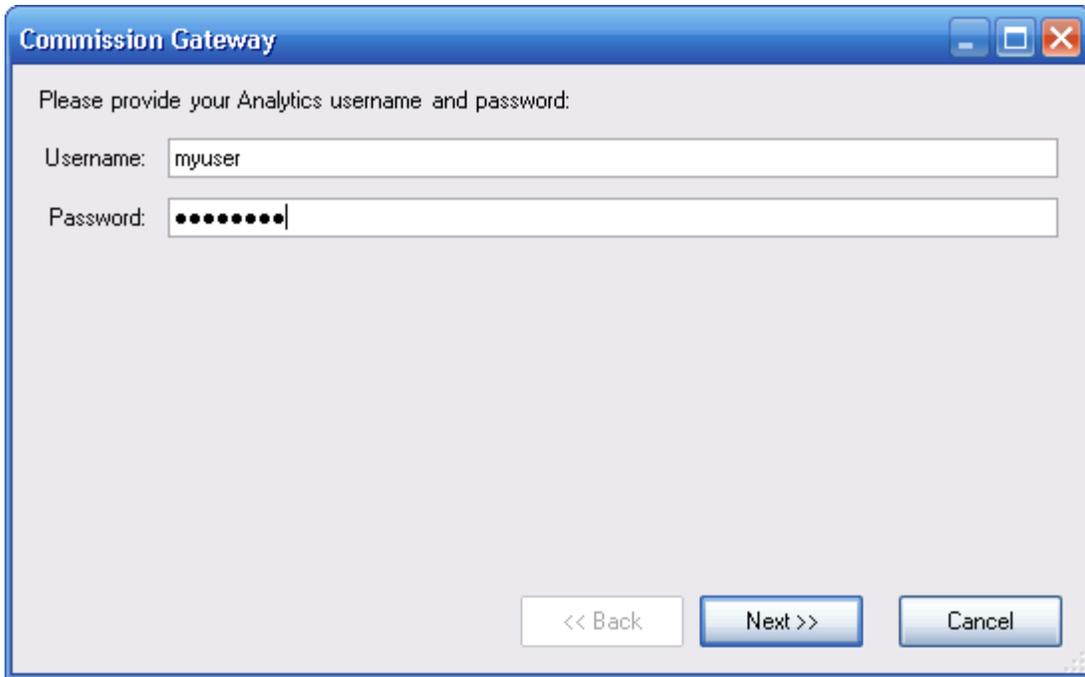

Figure 11-2 - Provide your SMT Analytics username and password
2. Enter your SMT Analytics username and password (see FIGURE 11-2).